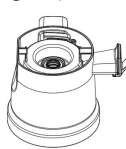

Fig 12c
- The big flat size of the seal ring will be inside while the small and ribbed side is outside the Squeezing Bowl. (Fig 12c)